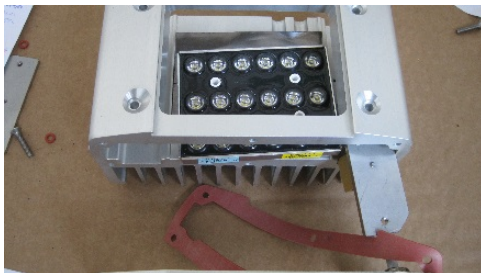

Fig: 7
v) feed the LED board up in to the head and ensure that the thermal pad is in position with holes aligned. Insert and tighten screws W-404 and line up the lens clamp threaded holes with the screws, Partially tighten, See Fig: 7. Fit bottom plate and tighten the six screws, vi) Re-assemble as per iii, iv and v from Glass Lens Replacement'.